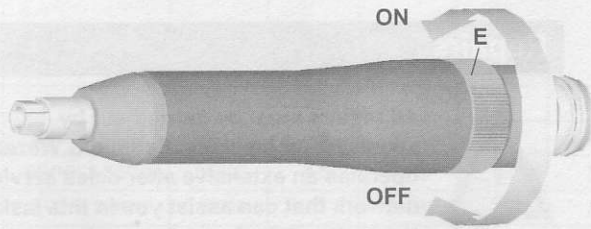

Fig. 3: Switching on/off
Turn the control sleeve (E) of the rotary valve in direction "ON" (see Fig. 3).